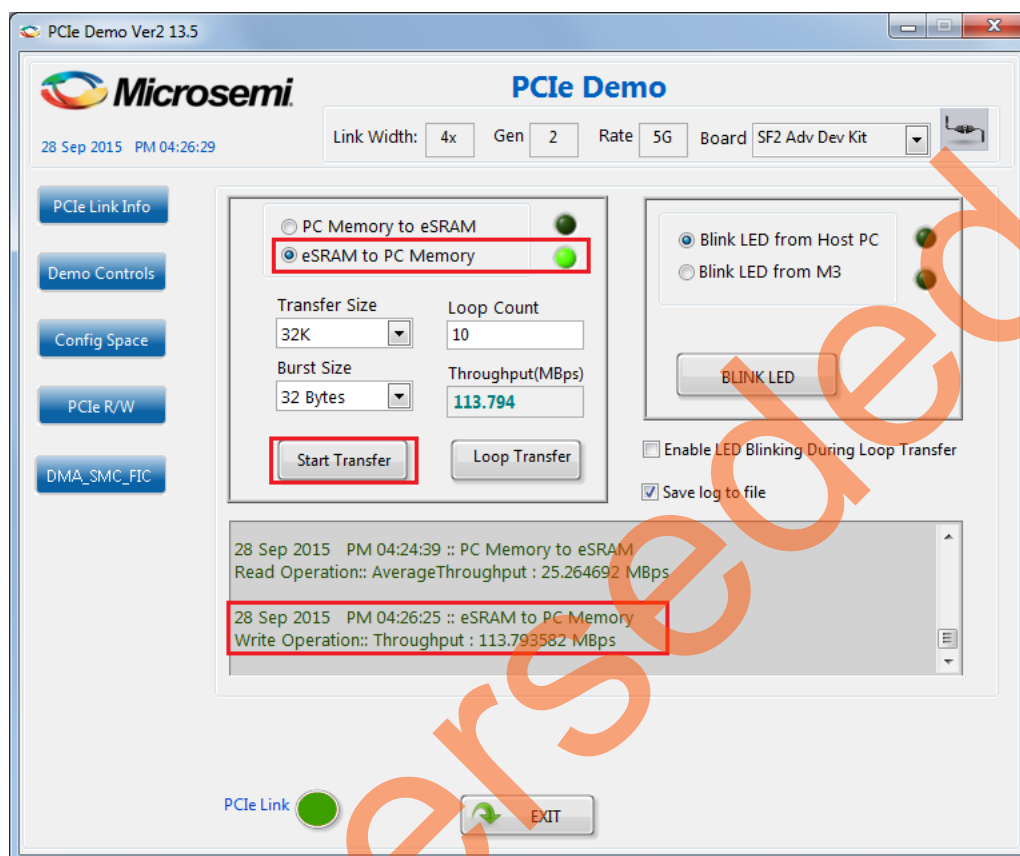

Figure 28 • Throughput in the DMA Transactions from eSRAM to the Host PC
20. Select the type of DMA transfer as eSRAM to PC Memory and select 32 K Transfer Size. Click **Start Transfer** to perform a single DMA transaction. After completion of data transfer, the throughput is displayed. Figure 28 shows the throughput in the DMA transactions from eSRAM to the Host PC.